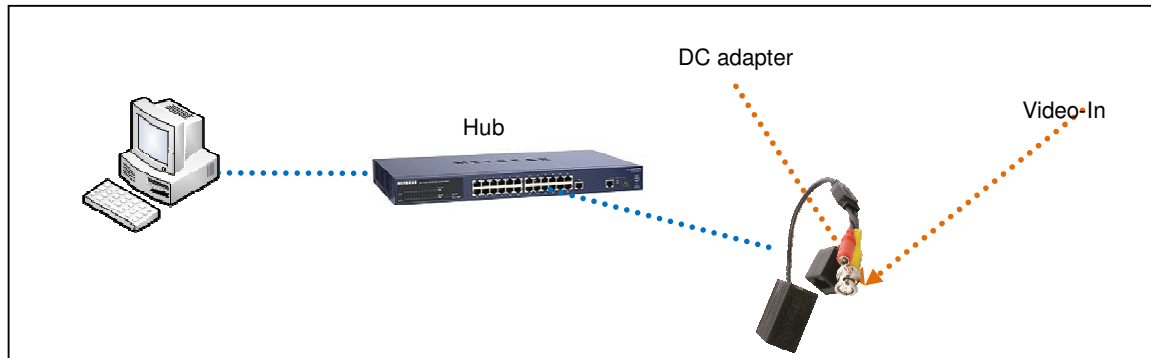

Figure 3-1. Power and network connection
- 2) Figure 3-1. The DC power is applied through DC adapter.